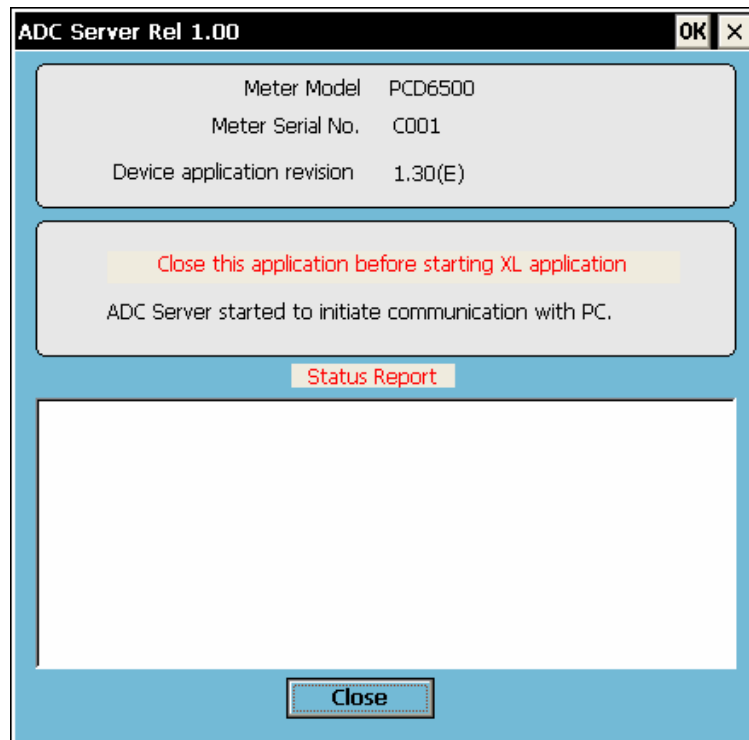

Figure 7 : ADC Server application window
4. Start **ADCServer**. Double-tap on 'ADCServer' icon available in the Desktop of the meter. The ADC Server application window appears. (Figure 7)